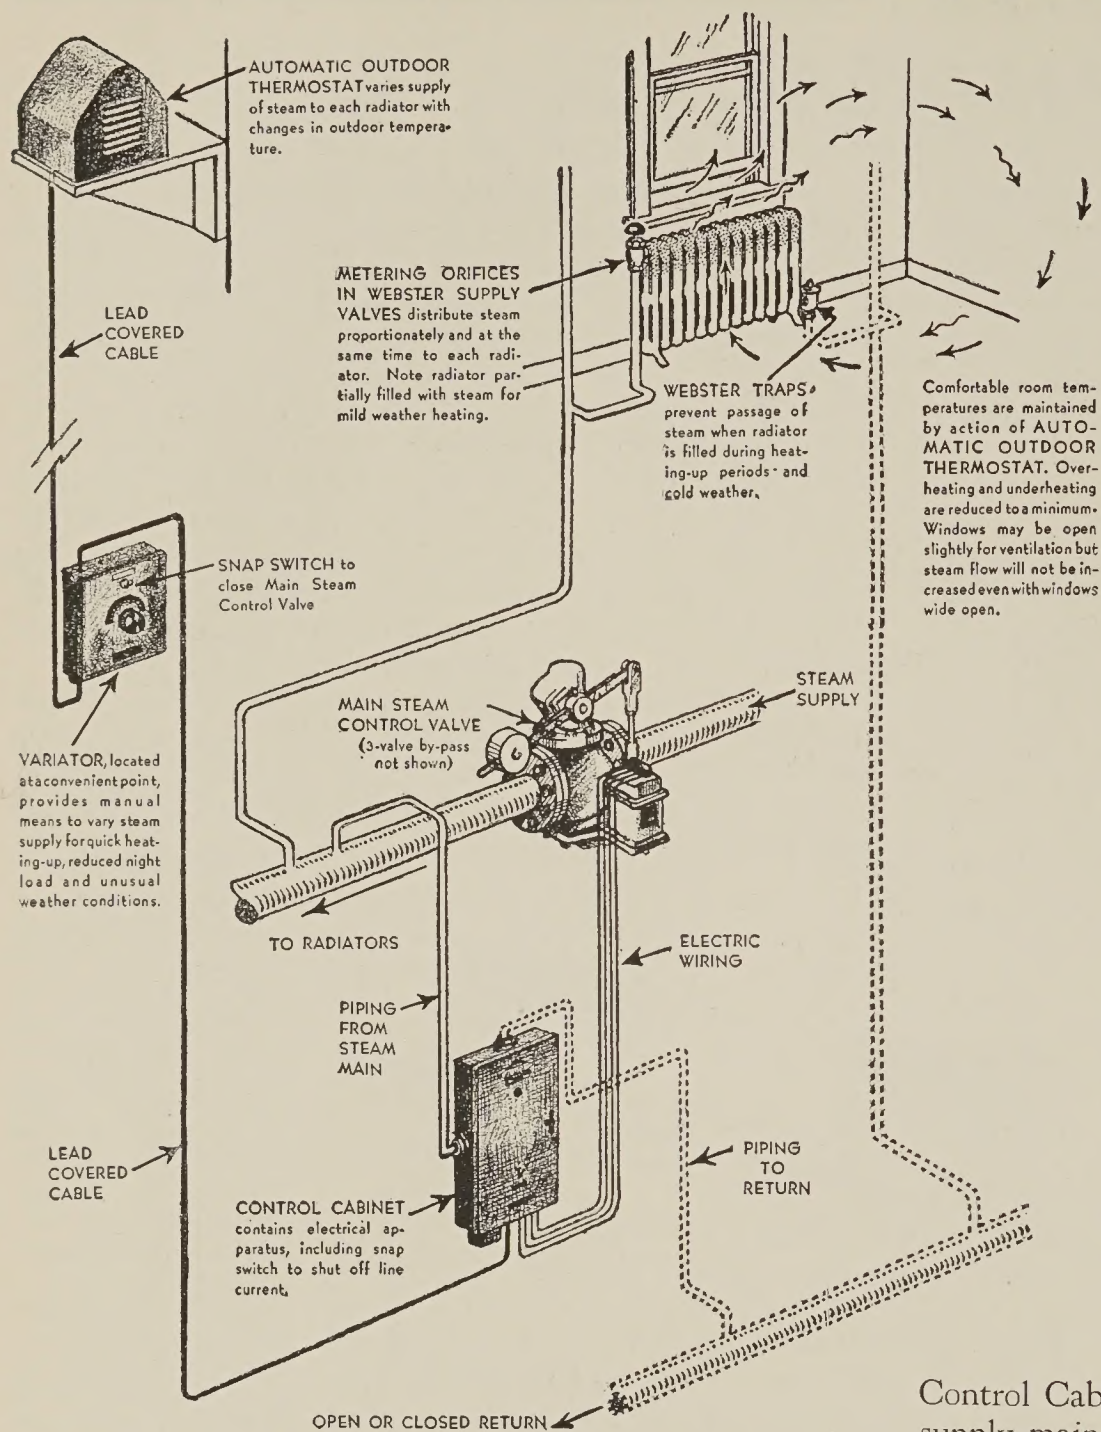

Fig. 3. Standard Arrangement of Improved Webster System with Webster Electric Moderator Control, Using a Single Main Steam Control Valve
(1) Standard arrangement of one single Main Steam Control Valve (illustrated in Fig. 3) which is adequate for the requirements of the average building.
(2) Multiple Valve arrangement for large installations or groups of buildings, providing Moderator Control of two or more Main Steam Control Valves with each valve under control of its own Outdoor Thermostat and each valve adjustable by means of an individual Variator.
For the purpose of description the standard arrangement illustrated in Fig. 3 will be used. Steam may be delivered from high or low pressure boiler or from any other source. Return piping may be either "open" or "closed," as Webster Moderator Control always regulates the pressure difference and will function equally well regardless of whether the pressure in the return piping is at atmosphere or below.